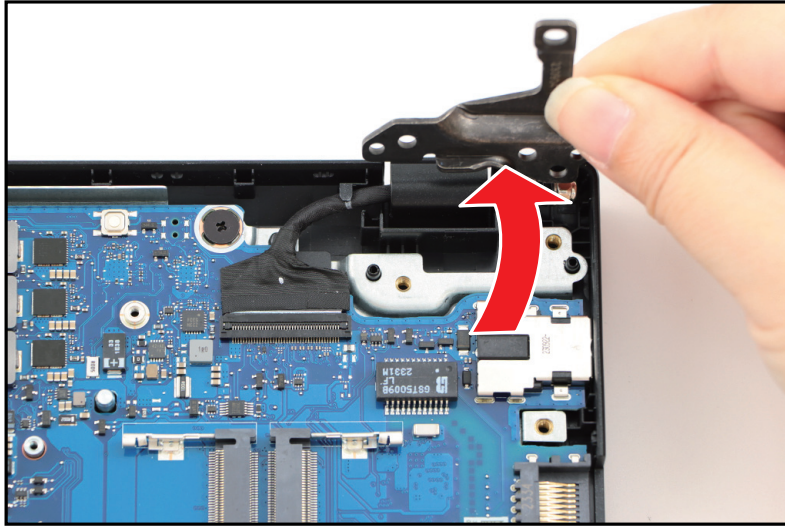

Figure 1-34. Mainboard Removal
3. Close the top assembly and lift the left LCD hinge until it is fully extended (Figure 1-34).